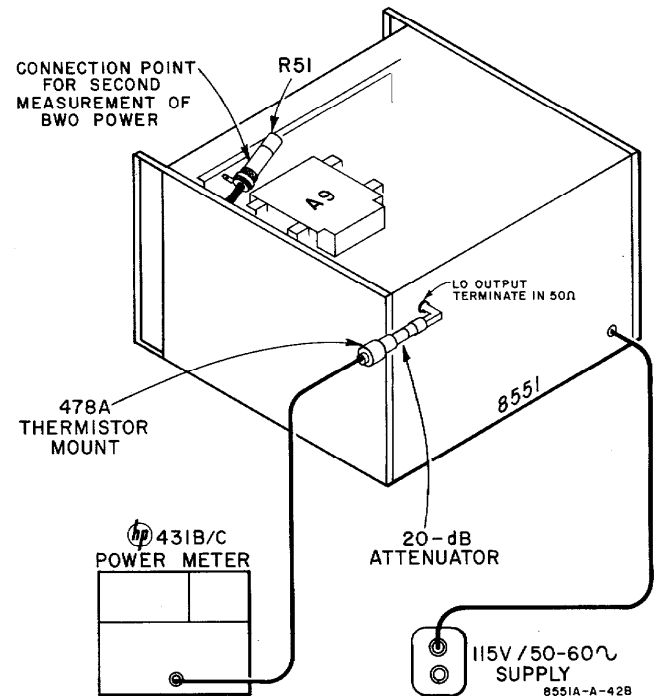

Figure 5-3. Setup for Measuring BWO Power at 8551 Rear Panel Output
a. Connect a 20-dB RF attenuator to LO OUTPUT-TERMINATE IN 50 OHM connector on 8551 rear panel. Connect power meter and thermistor mount to attenuator (see Figure 5-3).
5-44	<p>9. BWO OUTPUT:</p> <p>Typically greater than 20 mW.</p> <p>Equipment Required:</p> <p>Microwave Power Meter & Thermistor Mount (431B & 478A) 20-dB RF Attenuator (8491A - Option 20)</p> <p>Connect equipment to LO OUTPUT - TERMINATE IN 50 OHM connector on 8551 rear panel as indicated in Figure 5-3.</p> <p>With LINE at ON, power meter reading should be approximately 0.2 mW (or greater), indicating output of approximately 20 mW (or greater).</p>